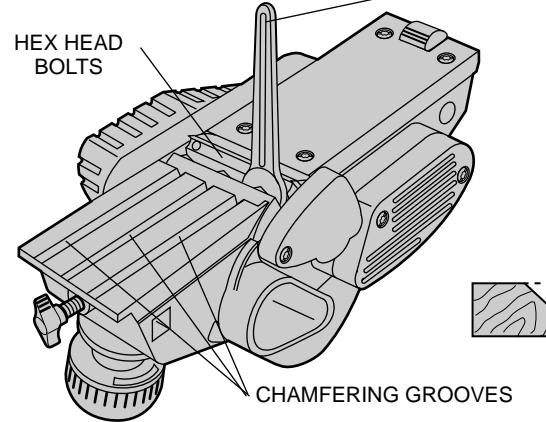

FIG. 10
3. With the three screws loose, push the old blade out with a screwdriver (Fig. 10). The blades have two cutting edges on them. If this is the first time you are changing blades, you need only to turn the blade around to expose the fresh cutting edge. Otherwise you will have to replace the blades.
4. Install the new (or reversed) blade as shown in the close-up view shown in Figure 10. Slide the blade all the way in until the end of it is flush with the end of the blade drum.